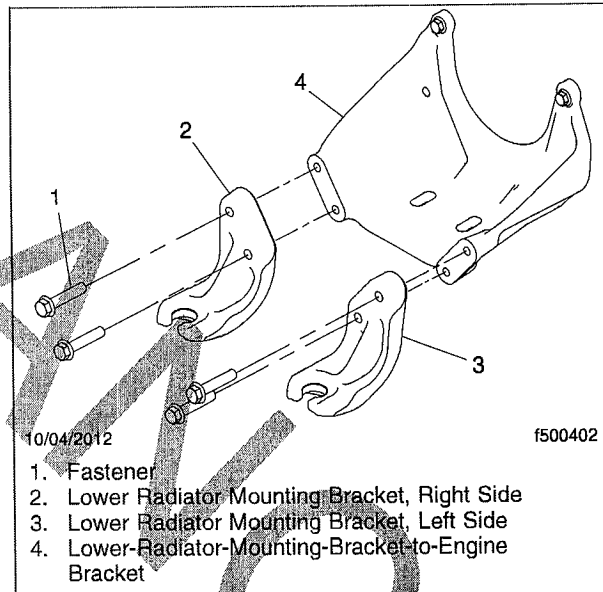

Fig. 6, Lower Radiator Mounting Brackets Installation
20. Install the lower radiator mounting brackets. See **Fig. 6**. Tighten 191 to 234 lbf-ft (260 to 317 N·m).